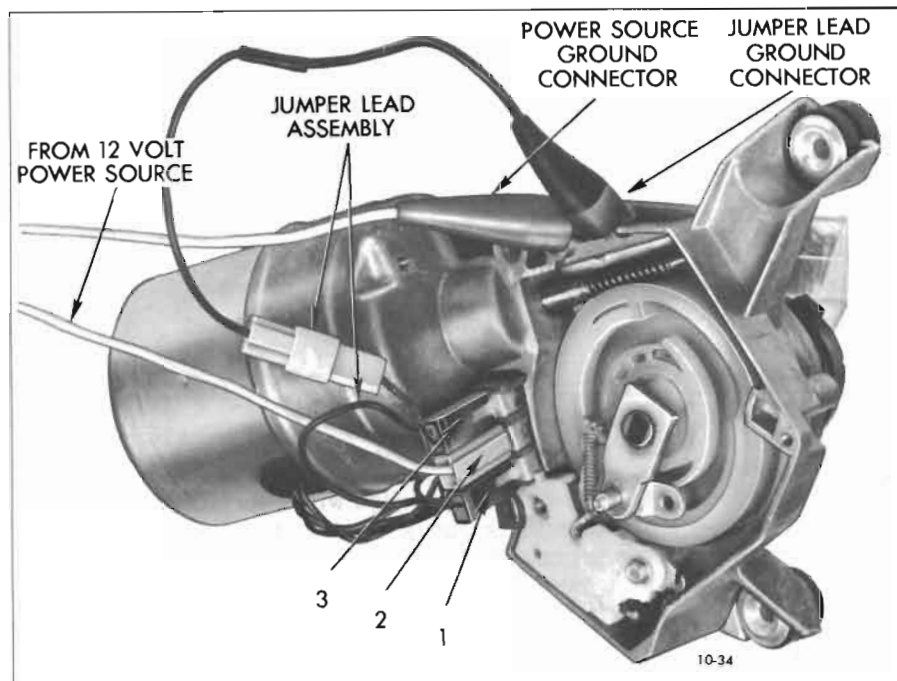

Figure 10-34—Connections to Operate Wiper Out of Car
1. Preliminary Test. Try operating wiper as shown in Figure 10-34. Check if wiper has low speed, high speed, and shuts off correctly.
b. Connect up wiper to operate in "Lo" speed (Figure 10-34). Connect ammeter (Range 0 - 30 amps.) in feed wire circuit to wiper and observe current draw. Allow motor to run until it becomes hot.
(1) If current draw is normal (3.5-5 amps. max.) and wiper